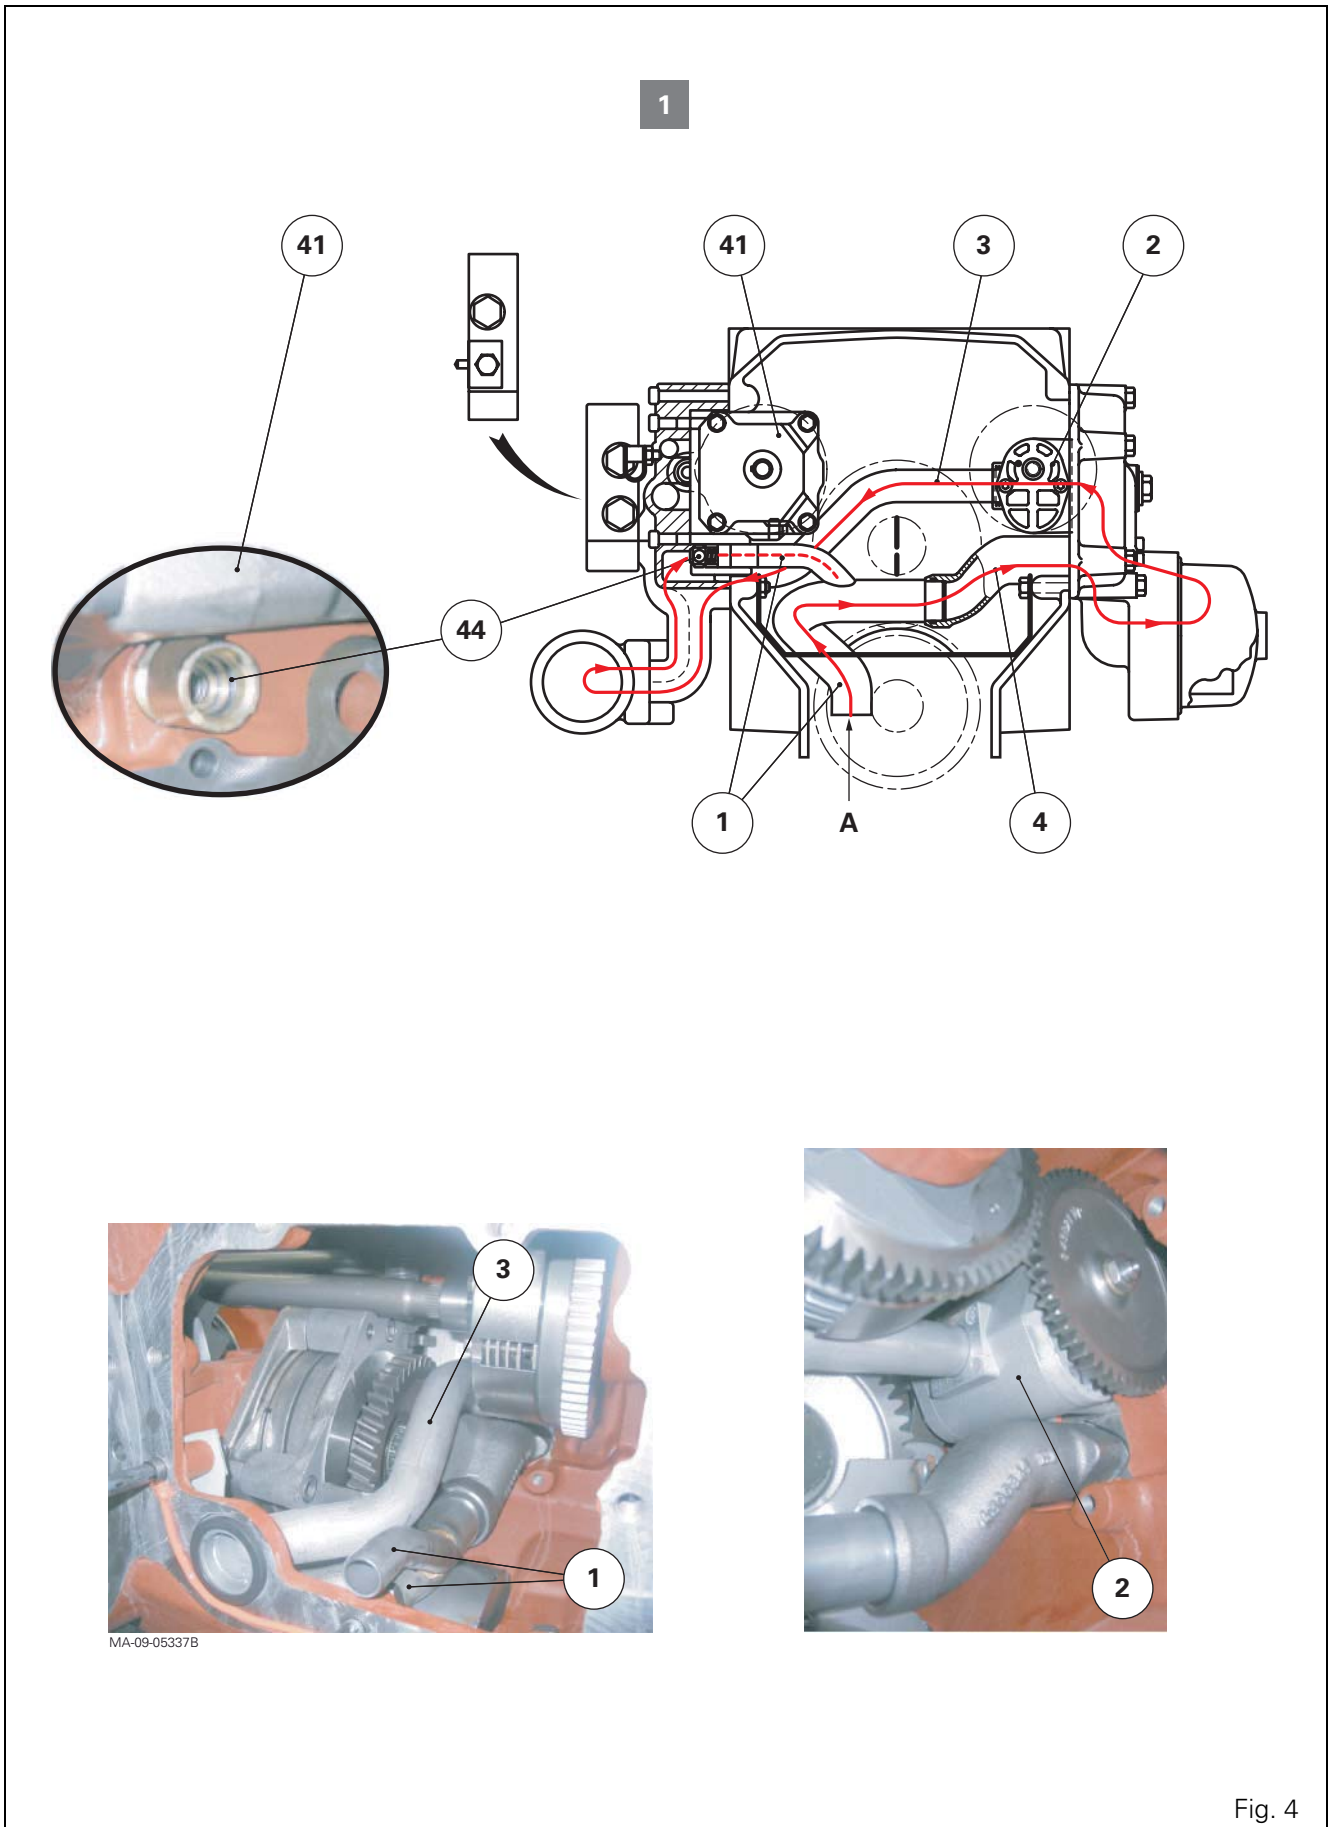

Fig. 4
The oil coming from the charge pump located on the left-hand cover plate (see chapter 9) is directed towards the priority block via the pipe (3) (GPA20 and GPA40) (Fig. 4, Fig. 5, Fig. 6) or the pipe (54) (GPA30) (Fig. 7) via the variable displacement pump (41), to supply the required function.
The pipe (1) (GPA20 and GPA40) (Fig. 4, Fig. 5, Fig. 6) or the pipe (55) (GPA30) (Fig. 7) carries the oil coming from the 5 bar safety valve (44) to the suction manifold (4) fitted on the left-hand cover plate (see chapter 9).
GPA20 and GPA40 assemblies (Fig. 4, Fig. 5, Fig. 6)